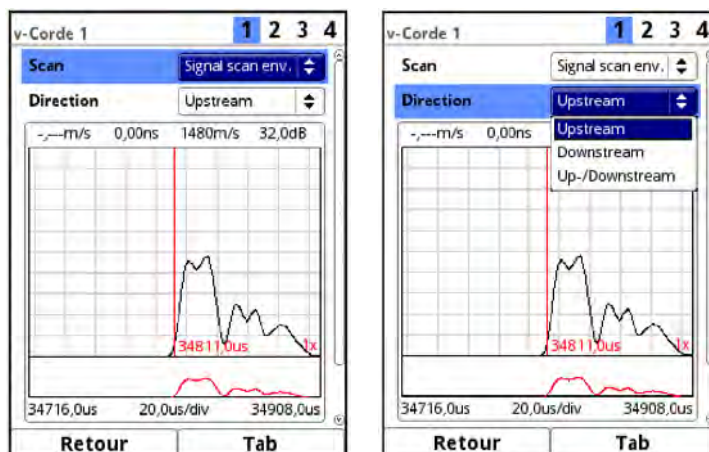

Fig. 44-3 Signal scan enveloppe
- **Signal scan enveloppe** (Fig. 44-3)